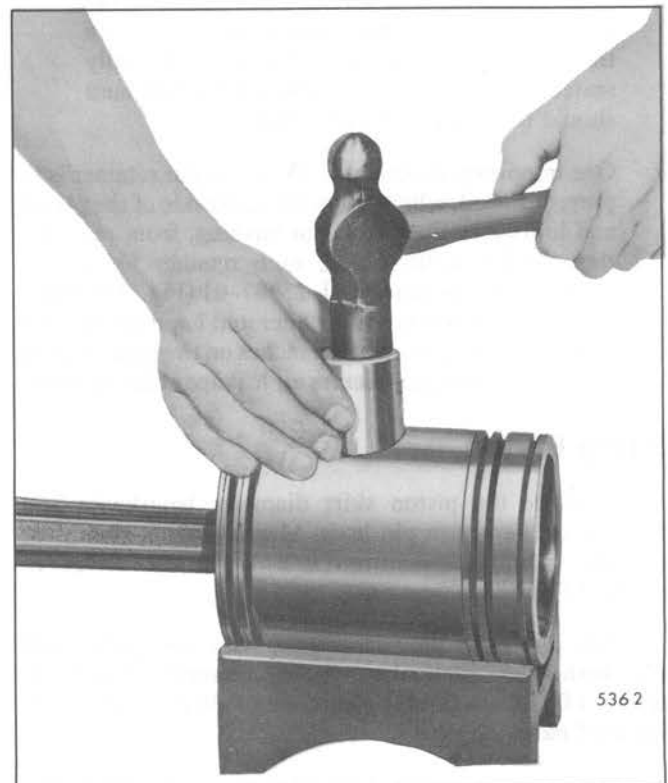

Fig. 10 – Installing Piston Pin Retainer with Tool J 23762-A
8. Place a new piston pin retainer in position. Then, place the crowned end of installer J 23762-A against the retainer and strike the tool just hard enough to deflect the retainer and seat it evenly in the piston (Fig. 10).